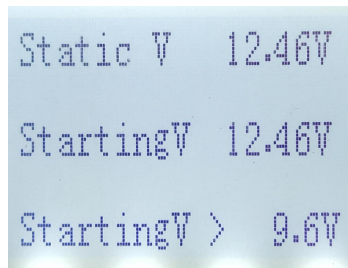

Figure 14
(2) Press the OK key to enter, as shown in Figure 14: